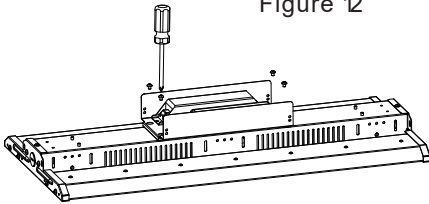
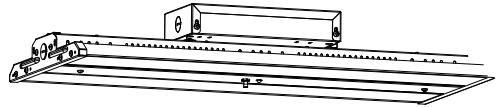

Figure 14
Figure 15
2. Open the cover of the backup driver box and install the backup driver box at the corresponding position on the back of the fixture (Figure 14). Connect the wires according to the instructions on the wire. Mount the buttons and indicators of backup driver on the front cover of the fixture (Figure 15), then fix the cover to the fixture.